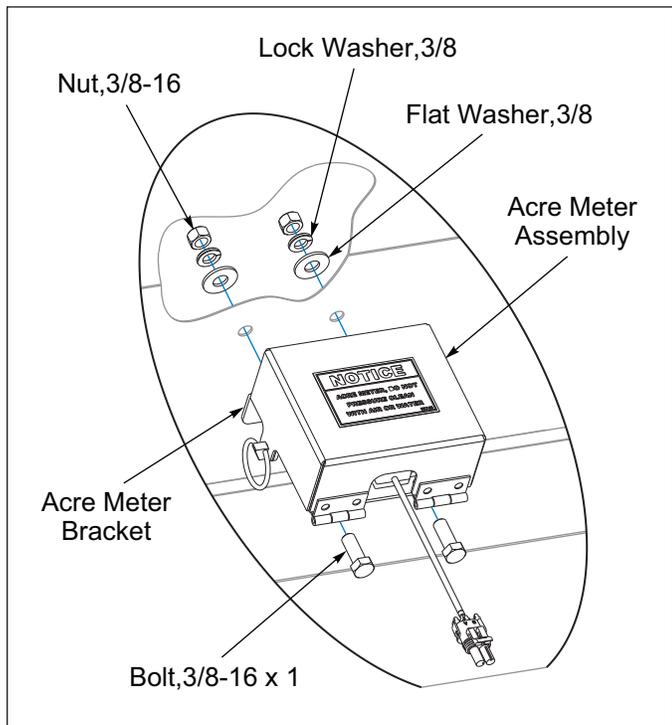

Figure 2-2: Mounting Acre Meter Asm
1. Mount the Acre Meter Assembly to the rear left side of the Seed Box just below the bend. **See Figure 2-2.** Place the Acre Meter Assembly Bracket against the Seed Box as a guide for the two 13/32" diameter holes. Drill holes into the Seed Box.